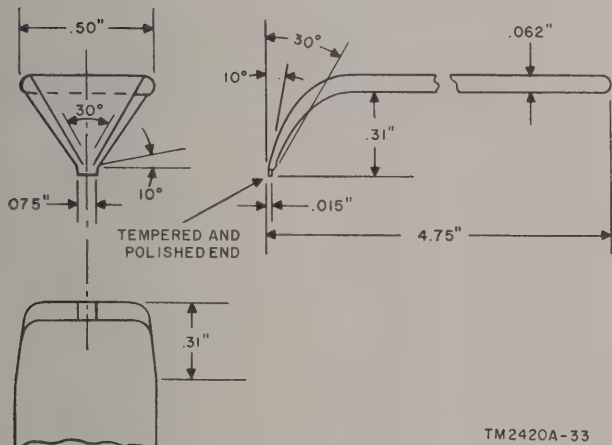

Figure 30. Burnisher.
b. Burnisher (fig. 30).
- (1) Cut the burnisher from a piece of tool steel.
- (2) Bend the burnisher to the shape illustrated in figure 30 and shape the tip on the burnisher with an emery wheel. Be sure to remove all of the burs and metal filings.
- (3) Temper the end of the burnisher so that it is very hard, and polish it with a buffing wheel.
of the commutator segments by running the burnisher (fig. 30) in the grooves between the segments. Run the burnisher parallel to the armature shaft.